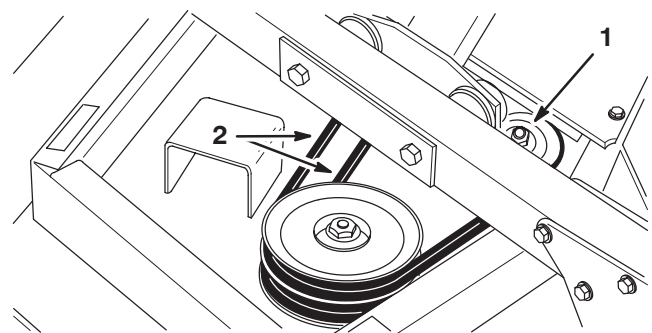

Figure 68
2. To tension belts, loosen flange locknut at top of idler pulley (Fig. 68). Slide pulley against belt until proper tension is reached. Hold pulley in position and tighten locknut.
3. Remove flange head screws securing gearbox plate to deck. To separate plate and drive motor assembly from deck, rotate plate end toward traction unit (Fig. 68). Tip plate, motor and pulley assembly on its side and remove from deck. Be careful not to bend, twist, kink or damage flexible hydraulic lines.
2. Remove deck covers and relieve belt tension on all belts (Fig. 68).